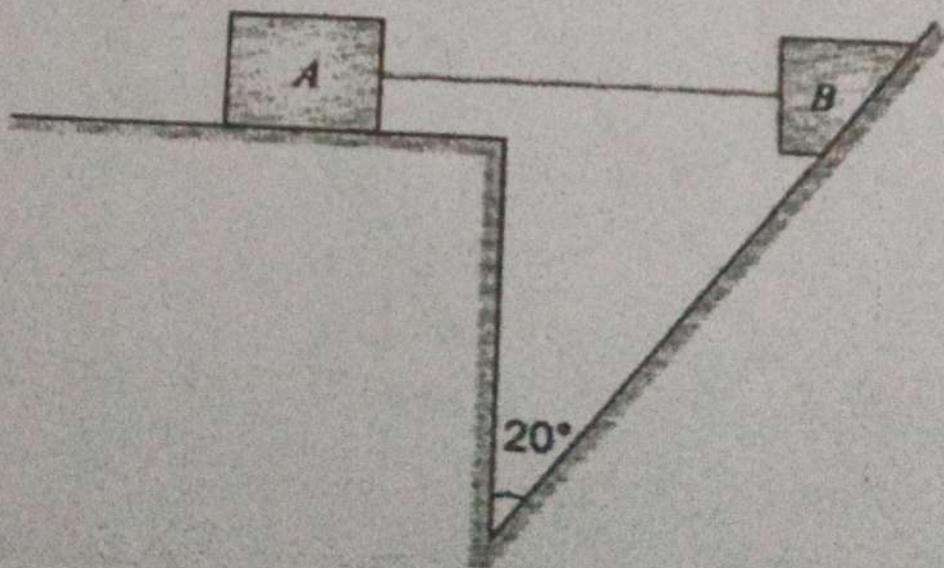

Fig. 6
- 1. Two blocks connected by a horizontal link AB are supported on two rough planes as shown in Fig. 6. The coefficient of friction on the horizontal plane is 0.4. The limiting angle of friction for block B on the inclined plane is 20° . What is the smallest weight W of the block A for which equilibrium of the system can exist if weight of block B is 5 kN ?